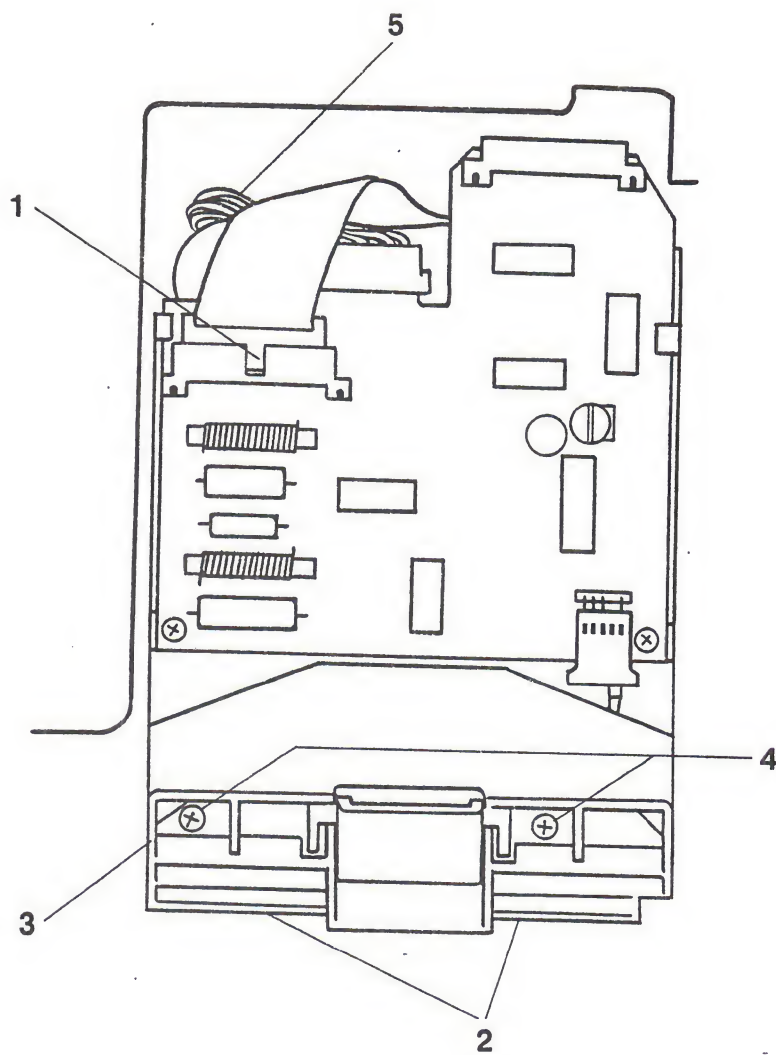

FIGURE 7
3. Draw a pencil line on the Apple III chassis along the front (See Figure 7, Item 2) and left side (Figure 7, Item 3) of the disk assembly bezel. This will serve as a location reference when the disk assembly is re-inserted.
4. Loosen completely (but don't remove yet) the two Phillips head screws that mount the disk assembly to the Apple /// chassis. They can be seen by looking down through the front diskette guide and door assembly. (See Figure 7, Item 4).
5. Loosen but don't remove the screw in the double retaining clip that secures the back of the disk assembly. (See Figure 7, Item 5).